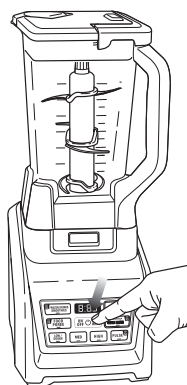

Fig. 8
- 11 To pause the appliance, press the selected speed or Auto-iQ™ Program a second time. (Fig. 8)
- 12 When you have reached your desired consistency, stop the appliance by pressing the power button (⏻) and wait for the Stacked Blade Assembly to stop turning. (Fig. 8)